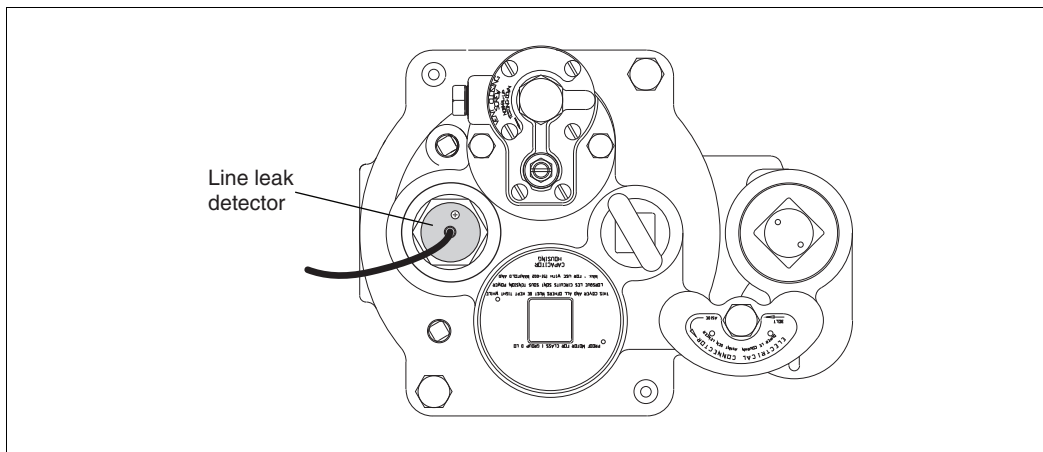

Figure 32. Electronic Line Leak Detector
2. If an electronic line leak detection transducer is installed, it must be removed from the leak detector port following instructions in the appropriate Line Leak installation manual (see Figure 32). A mechanical line leak detector does not need to be removed.